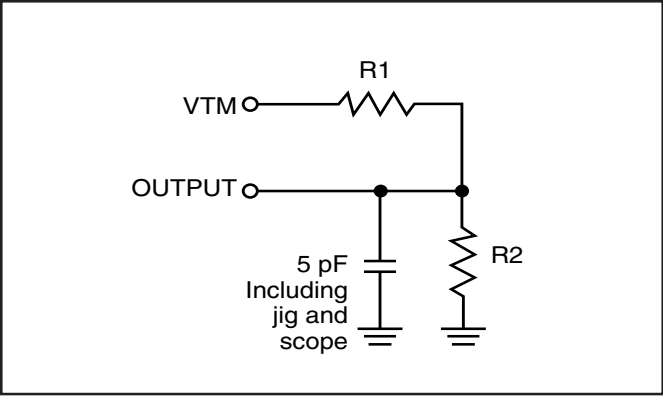

Figure 2
2. Tested with the load in Figure 2. Transition is measured ± 500 mV from steady-state voltage. Not 100% tested.
3. Tested with the load in Figure 2. Transition is measured ±500 mV from steady-state voltage. Not 100% tested.